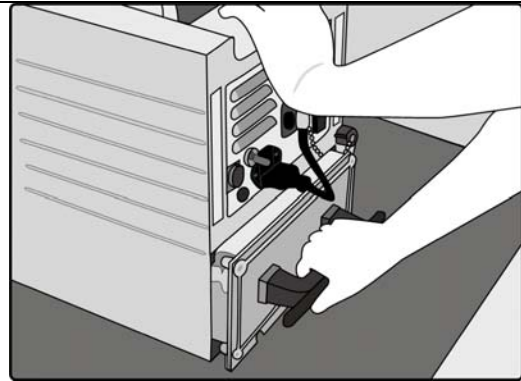

Figure 186: pulling the Battery Pack Out
4. Using the handle, pull the battery pack out, as shown in Figure 186.